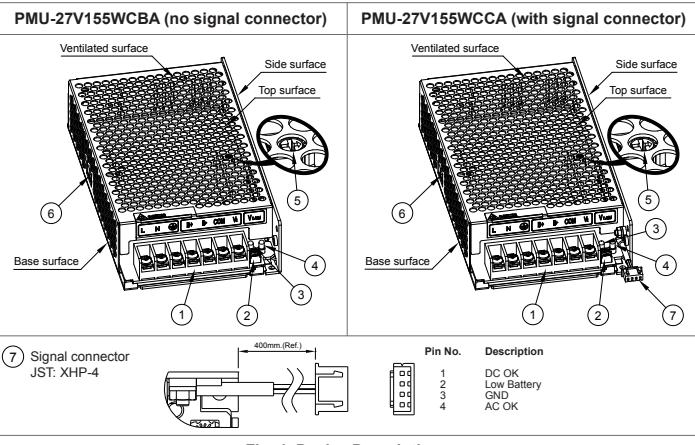

Fig. 1. Device Descriptions
- Must select correct AC input voltage range through selectable switch before turning on (Refer to Fig. 1, ⑥).
Refer to Fig. 1.:
Max charging current shall not exceed 1.5A (Refer to Fig. 1, ⑤).